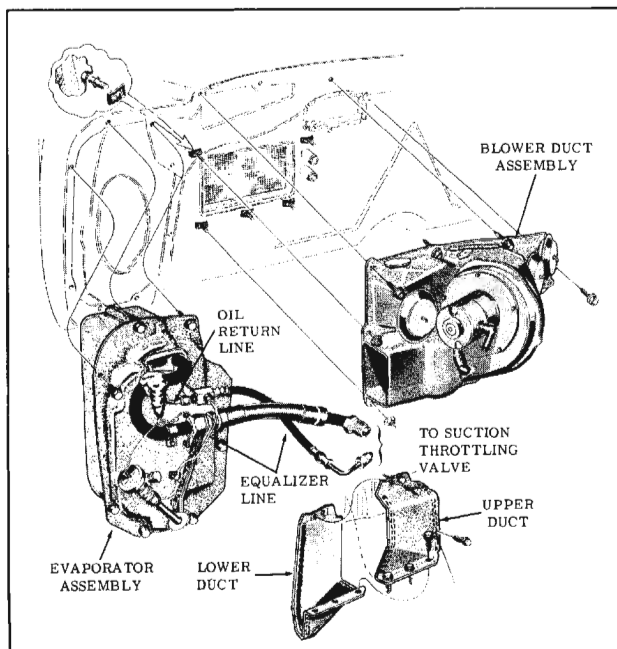

Fig. 15-38 Blower Duct Assembly
**Removal and Installation (Fig. 15-38)**